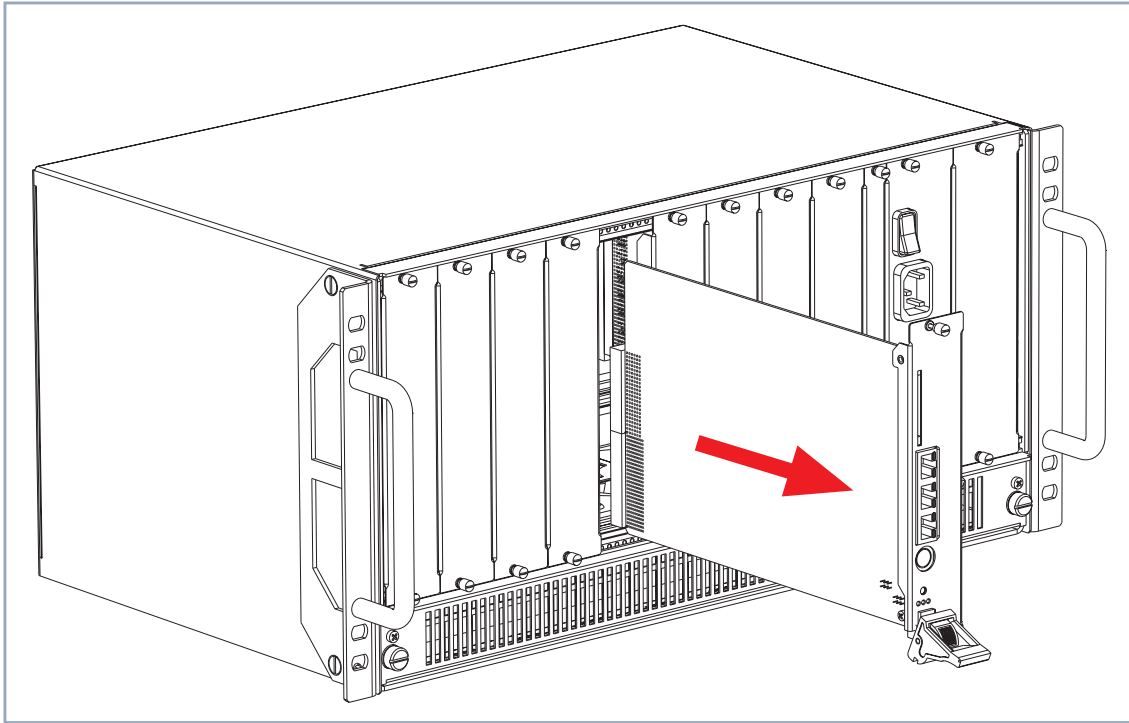

Figure 4-8: Removing an expansion card, step 3
- Draw the expansion card out of the slot as shown in figure 4-8, page 42. The expansion card is removed.
- Draw the expansion card out of the slot as shown in figure 4-8, page 42.